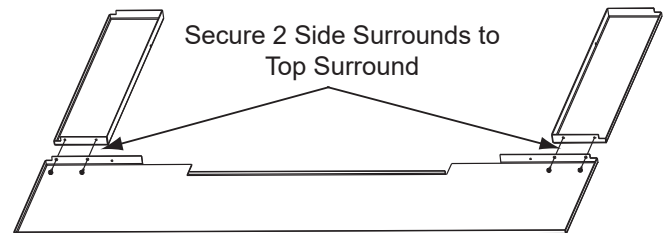

Figure 41.2
2. Using a 4 to 6 inches long Phillips head screw driver attach the side surrounds to the top surround using (2) #8 sheet metal screws on each side provided with the kit (**Figure 41.2**).